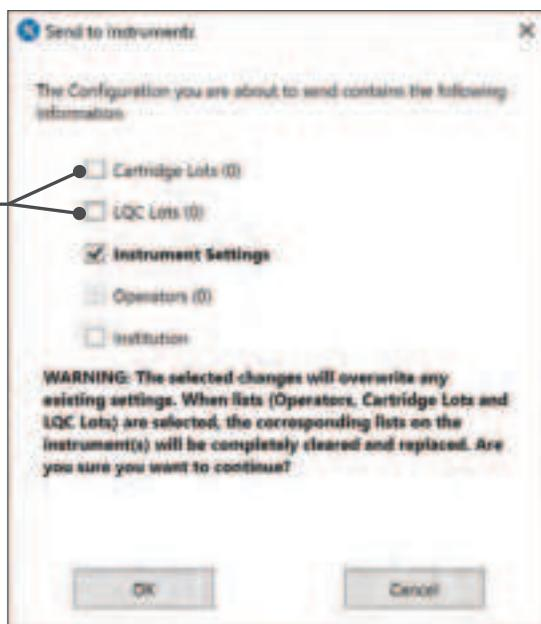

Figure 111: CCM – Send to Instruments Dialog Box
- 5 The **Send to Instruments** dialog box (Figure 111) is displayed with a check box next to each type of configuration data. If any of the items are in **bold**, the configuration data was changed in the session.